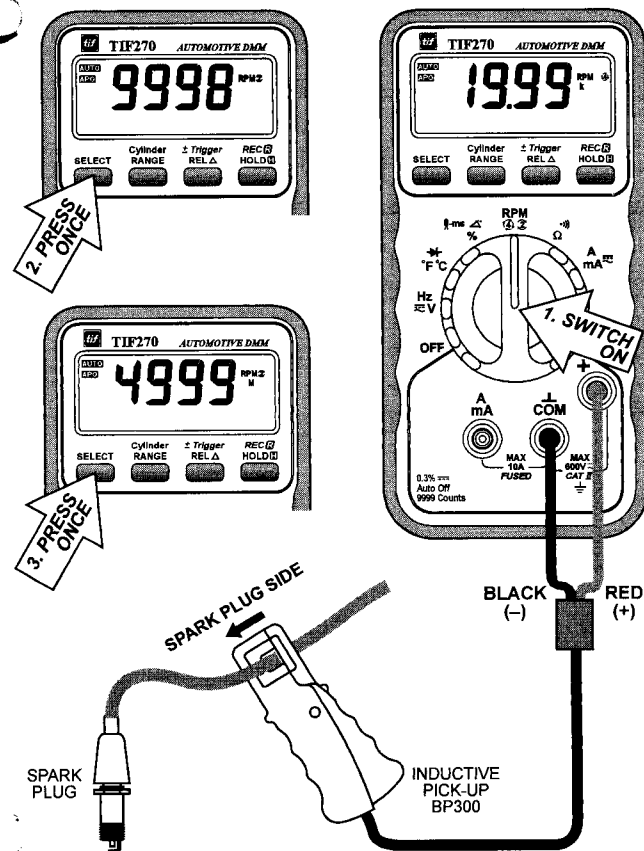

FIG 8. RPM FUNCTION
- 4) Clamp the inductive pick up to a spark plug wire with the arrow sign facing the spark plug. See **FIG 8**. Make sure that the pick up jaws are completely closed